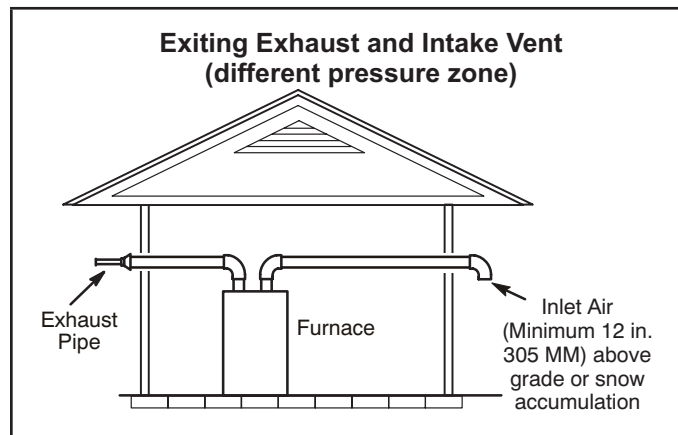

FIGURE 34
- 1 - Intake and exhaust terminations are not required to be in the same pressure zone. You may exit the intake on one side of the structure and the exhaust on another side (figure 34). You may exit the exhaust out the roof and the intake out the side of the structure (figure 35).